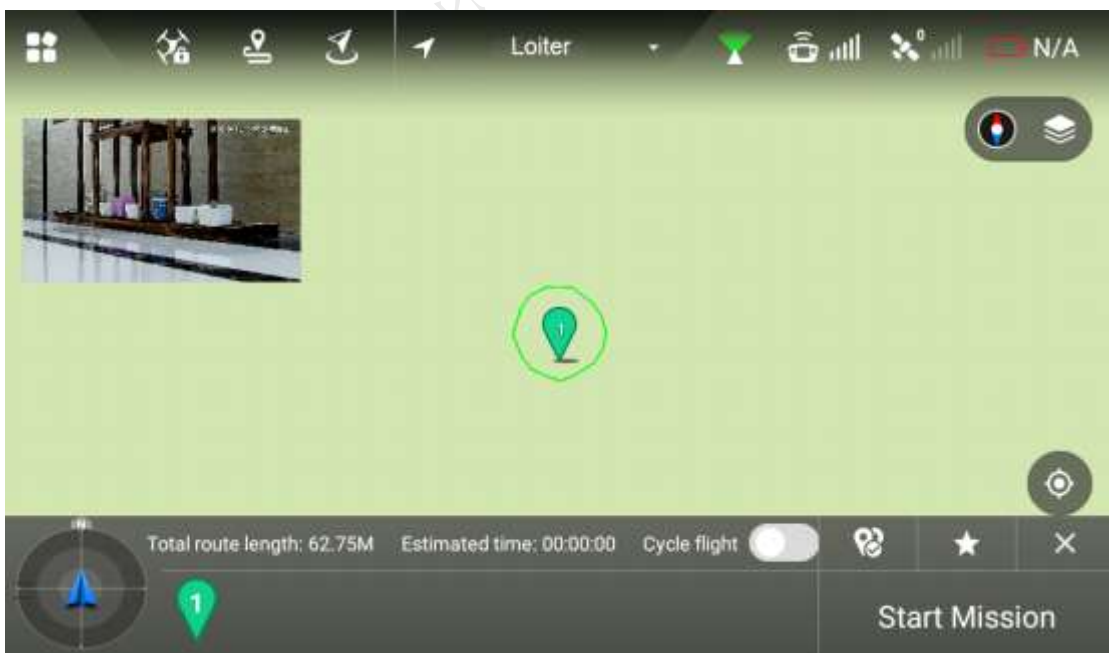

Figure 4-18
Step 1 Select "Point of Interest" and enter the setting interface, as shown in Figure 4-18.